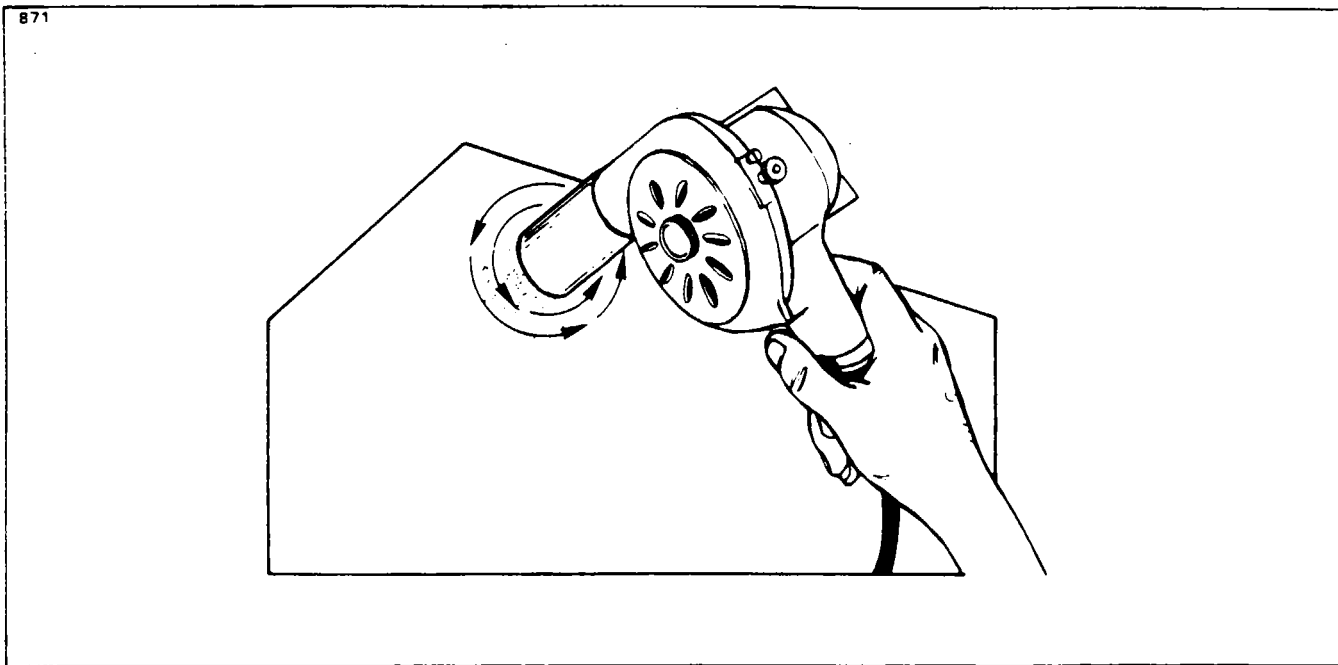

Figure 4-9. Surface Scratches, Abrasions or Ground-in-Dirt
2. Surface Scratches, Abrasion or Ground-in-Dirt: (Refer to Figure 4-9.)